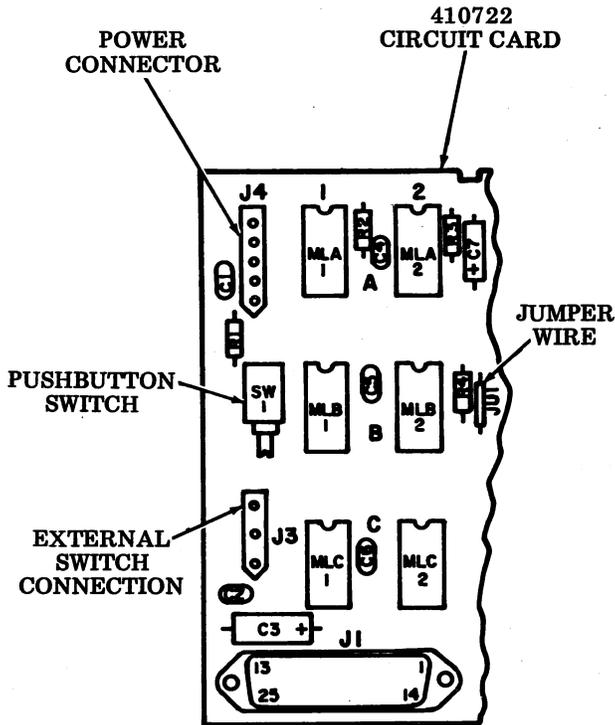

Fig. 5—Left-Hand Part of Answer-Back Card (410722)
3.07 The answer-back message can be locally copied by the host terminal, if Option 75.a. is selected, by cutting option strap JU1 on 410722 circuit card Area A3 (Fig. 5) or by setting MLB1 SW7 open on 410732 circuit card.